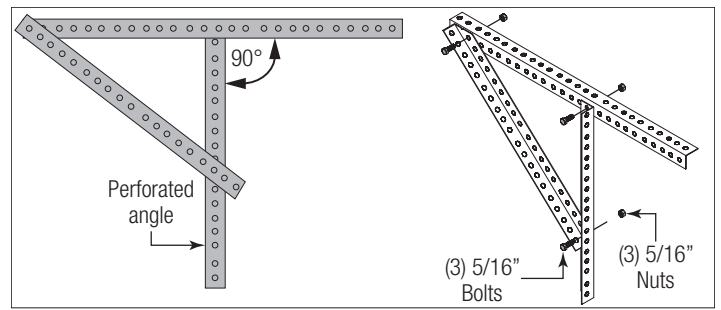

Figure 58
**IN THE EVENT THE SPRING(S) WERE OVER-WOUND, HOLD THE DOOR DOWN FIRMLY AND CAUTIOUSLY REMOVE LOCKING PLIERS FROM VERTICAL TRACKS TO PREVENT IT FROM RISING UNEXPECTEDLY.**
**See Figures 58, 59, and 60 for the following steps.**